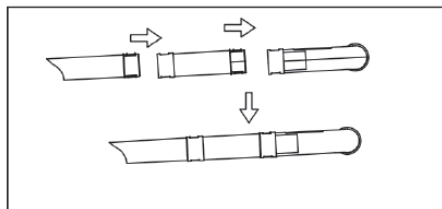

Fig.5
- Assemble the three suction pipes as illustrated (Fig 5).